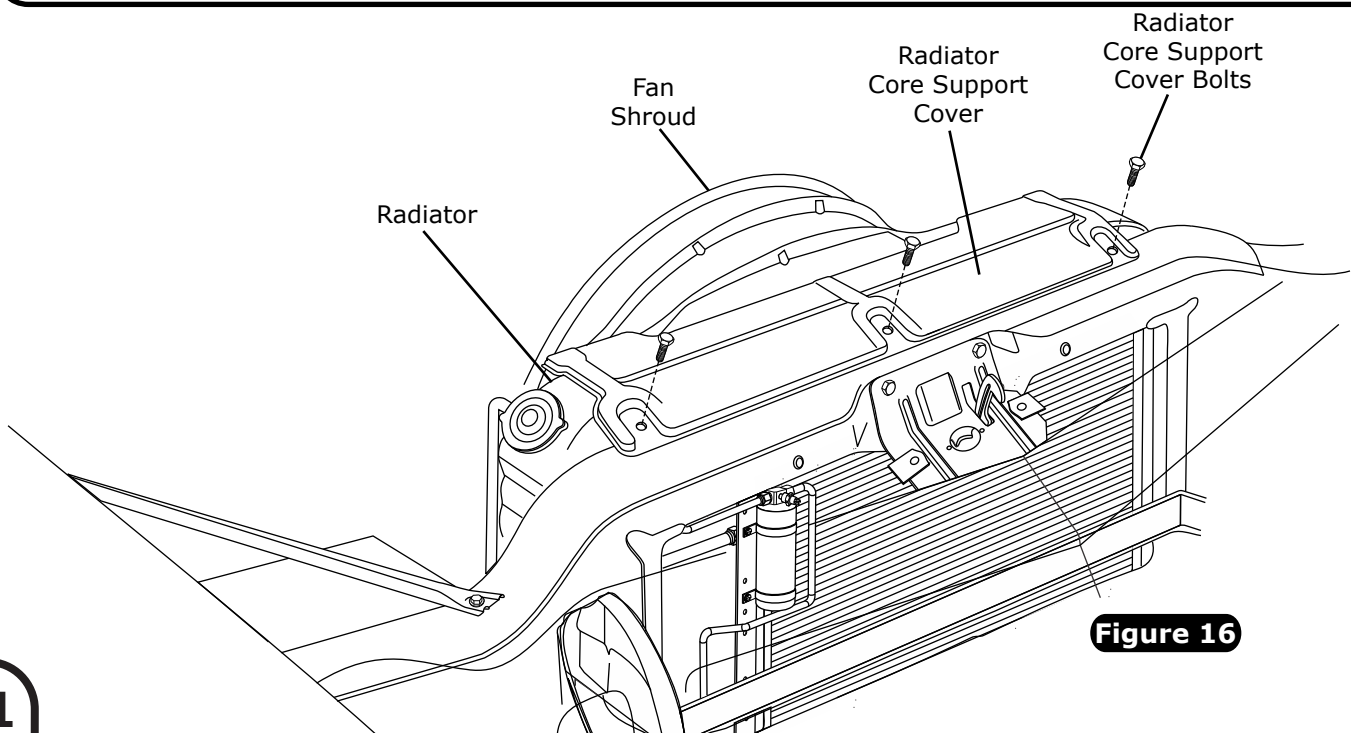

Figure 16
1. Reinstall OEM fan shroud, radiator, and the radiator core support cover as shown in Figure 16, below.